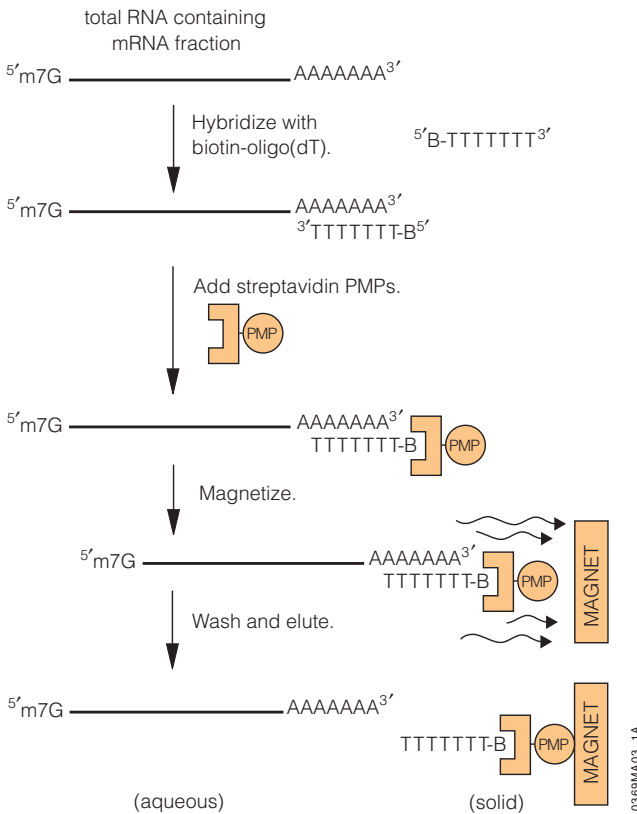

Figure 1. Schematic diagram of the PolyAtract® mRNA isolation procedure.
The systems use a biotinylated oligo(dT) primer to hybridize at high efficiency in solution to the 3' poly(A) region present in most mature eukaryotic mRNA species. The hybrids are captured and washed at high stringency using streptavidin coupled to paramagnetic particles and a magnetic separation stand (Figure 1). The mRNA is eluted from the solid phase by the simple addition of ribonuclease-free deionized water. This procedure yields an essentially pure fraction of mature mRNA after only a single round of magnetic separation.